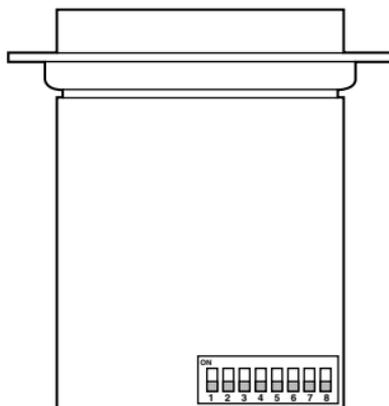
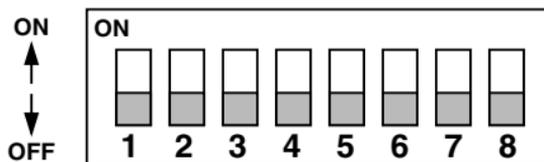
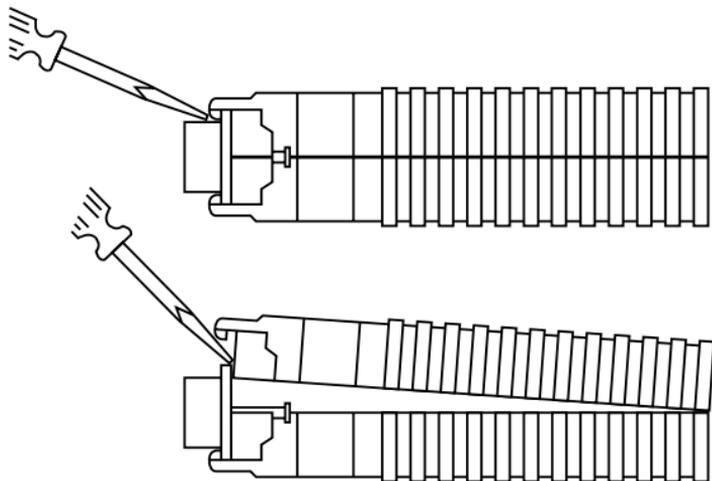

Figure 3-2. Bottom view of the PC board, showing the internal DIP switch.
Figure 3-3. Closeup of the DIP switch. All eight switches are ON.
Figure 3-5. Opening the Driver's plastic case with a small screwdriver.
Figure 3-2 shows the location of the 8-position DIP switch on the underside of the Driver's PC board. Figure 3-3 shows a closeup of the DIP switches.
The eight switches on switch set S1 (see Figures 3-2 and 3-3) configure the Driver for RTS/CTS delay, echo mode, method of carrier control, impedance, and 2-wire/4-wire operation. These switches are located inside the unit on the Driver's PC board. To access switch set S1, use a small flat-blade screwdriver to pop open the Driver's case as shown in Figure 3-5.
1. You should already have the case open for the configuration procedure. If not, open the case according to Figure 3-5.